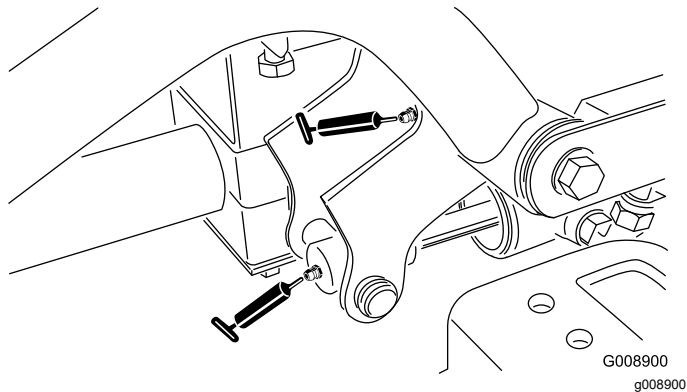

Figure 62
- Right front lift arm pivot and lift cylinder (2 fittings—Figure 62)